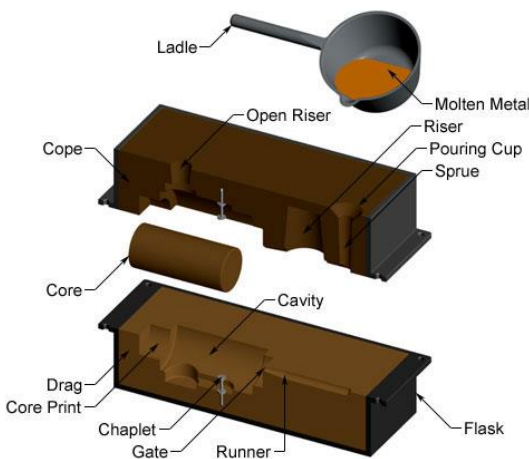

Figure 1: Mould Cast make (Custom Part 2019)
4. Outline the necessary turning operations required to create the part in Figure 1. You can assume that an appropriate piece of stock has been secured into the lathe. HINT: A numbered list is much better than a long paragraph.4
4. Outline the necessary turning operations required to create the part in Figure 1. You can assume that an appropriate piece of stock has been secured into the lathe. HINT: A numbered list is much better than a long paragraph.